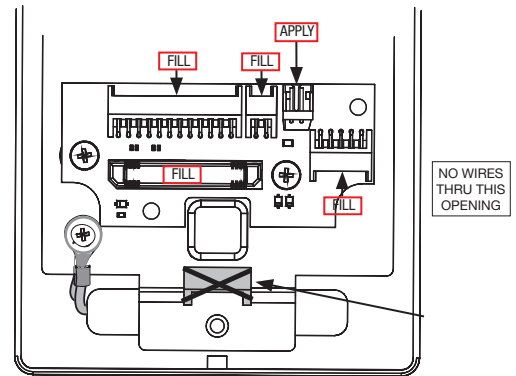
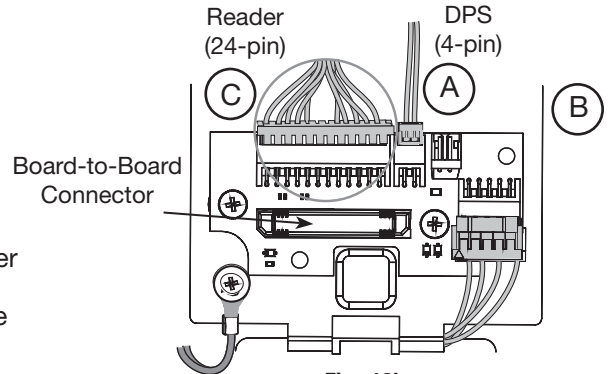

Fig. 16a
Fig. 16b
- Ensure all connector pins and contacts (Fig. 16a) are covered - do not overfill or over-apply**
IMPORTANT: Do not run wires through bottom hole in plate (Fig. 16a, b) - it will damage wires and the controller connector. Route wires around flange, do not route wires through the flange hole (Fig. 16b).
Secure the following connectors (Fig. 16b, c):
- Secure the mounting assembly while ensuring proper alignment of outside reader and fully tighten the (2) through-bolts on the inside of the door to secure the reader and plate to the door
C. Secure the 24-pin card reader connector (Fig. 16b, c).